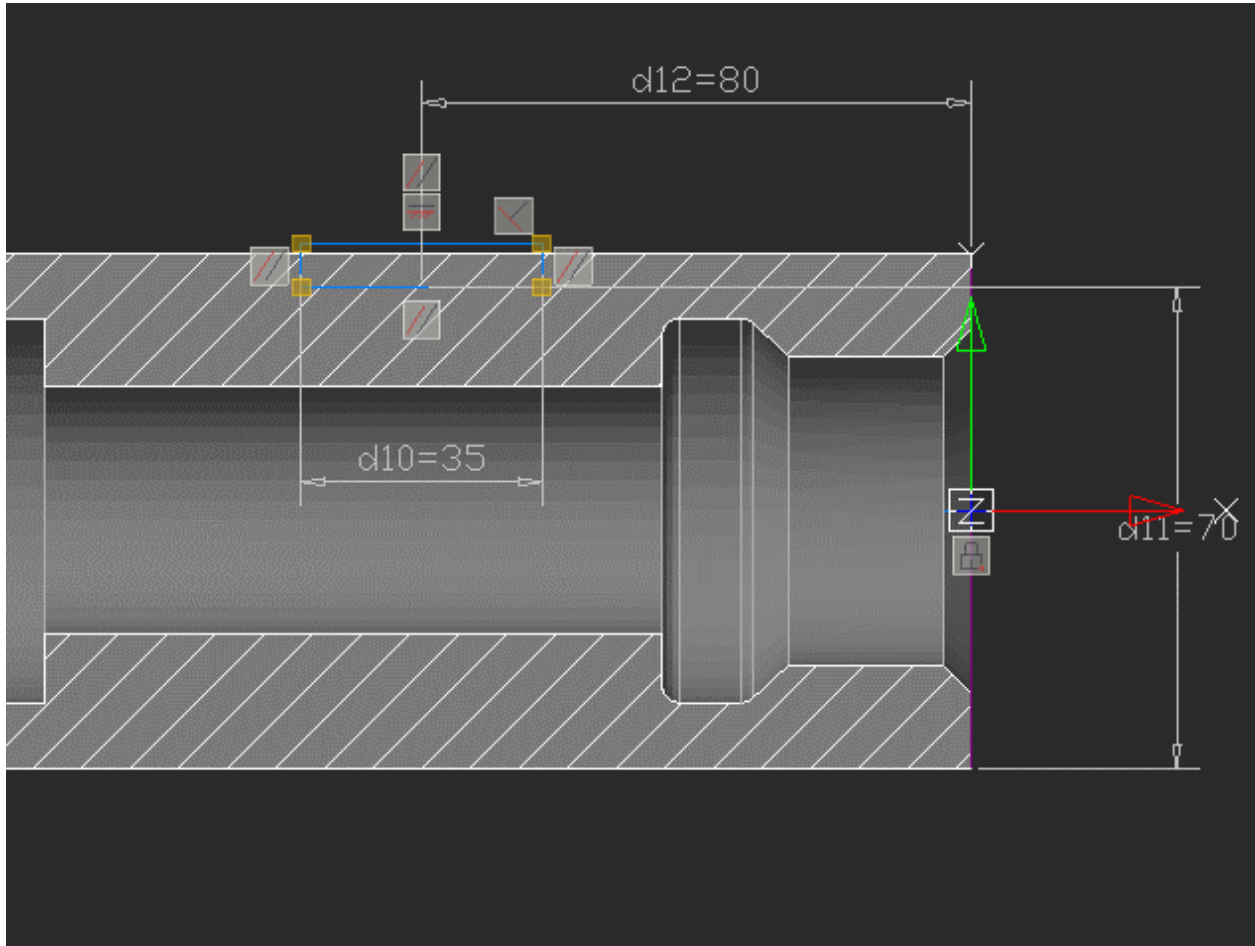

Fig. 21. The Sketch of the flat
7.1. To create a flat on the $\varnothing 75$ diameter step of the Part, use the **YZ** plane as the sketch reference. Draw a rectangle and apply **Auto Constraint** (Fig. 21). Project the end rib before you set dimensional constraints.